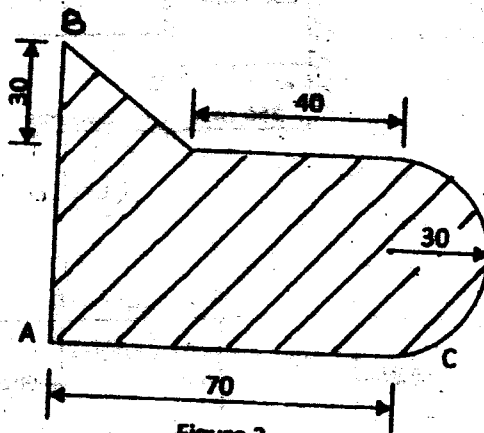

Figure 3
- c Locate centroid of the area with respect to A shown in Figure 3. All the dimensions are in mm. (06)